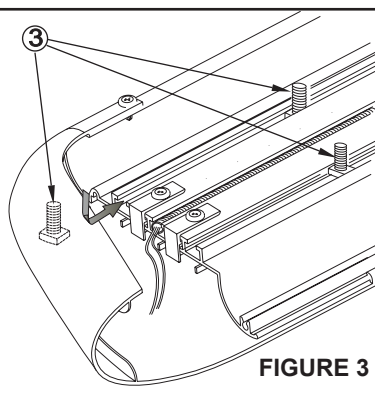
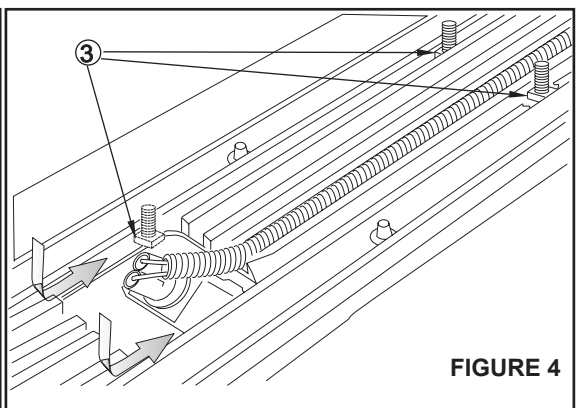

FIGURE 3
FIGURE 4
STEP 3. Insert square head bolts as shown (3 per slot, 6 per board). **SEE FIGURES 3 AND 4. NOTE:** For lighted boards, run wiring harness prior to attaching board to brackets (Refer to Step 4). **SEE FIGURES 3 AND 4.** Run longer wire harness on passenger side.
HINT: Molded Step Boards: For longevity, check rubber seals before installation. Rubber grommets around red and blue wires going into rear sockets, should be inserted and recessed about 1/4". **NOTE:** Remove bulbs and apply white grease into sockets and replace bulbs. Apply RTV Silicone where lights go into socket. Install lights and run wire loom as shown. **SEE FIGURE 4.** For Sure-Grip Running Boards, run wire loom down center as shown. **SEE FIGURE 3.**